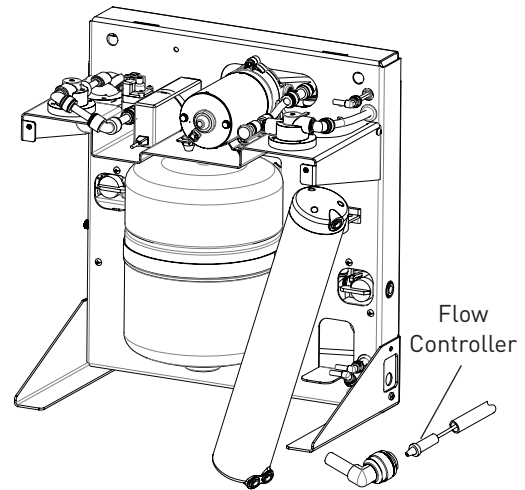

Figure 10
3. Remove the two (2) front cartridges by twisting each cartridge a 1/4-turn to the left (counterclockwise). Then pull down to release.
4. Remove the GRO-75EN RO Membrane Cartridge by removing the tubing from all three (3) connections. Then pull the cartridge out of the clip.
5. Replace the flow controller (Figure 10) in the red tubing at the bottom of the cartridge. Remove the quick-connect elbow from the red tubing to gain access to the flow controller and the attached capillary tube.
6. Remove the old flow controller (Figure 10) with the tube and discard.
7. Insert a new flow controller (Figure 10) with capillary tube into the tubing. Replace the quick-connect elbow.